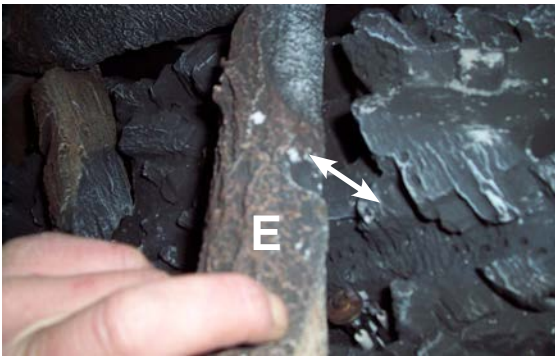

Figure 92: Log F Locator
- 10) Identify locator on Log H and opposing Locator on Log B as shown in Figure 92. Place Log H gently on Log B.